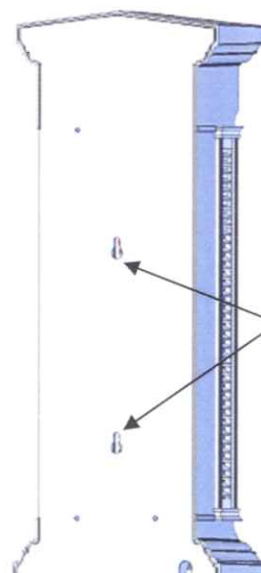

Fig. 2
Mounting unit to wall - Fig. 2
1. Mark two locations on the wall for your fasteners that are 7" apart. Make sure that the marks are perpendicular with each other. The two wall mount keyholes are located on the back of unit (Fig. 2).
To install a replacement lamp you must first remove access door. To remove access door, with the door facing you, grab the middle edge of the door, push towards back of unit and pull towards you. (Fig.1) The door will come completely off the unit (Fig.2).